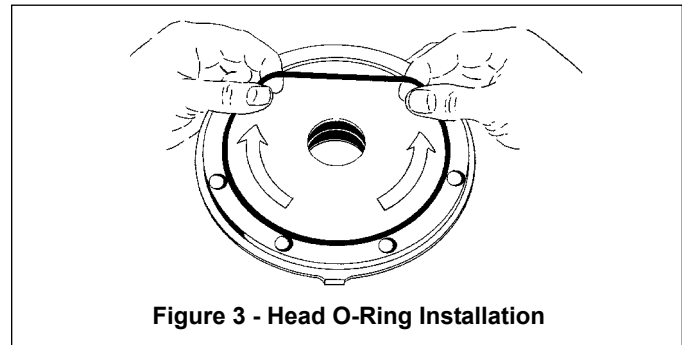

Figure 3 - Head O-Ring Installation
10. Apply a small amount of quality O-ring lubricant to the O-ring groove on the inside face of the head and install a new head O-ring (72) in the groove by laying the O-ring flat and starting in on one side of the groove, stretching ahead with the fingers, as shown in Figure 3.
12. With the tell-tale hole towards the bottom of the pump, carefully install the head assembly (20) over the shaft and against the cylinder (12). Use care not to damage the mechanical seal components.
13. Rotate the head (20) to engage the drive tangs of the seal jacket with the slots in the rotor.
14. Install and snug up the head capscrews (21). The head capscrews will be fully tightened after the second locknut is installed.